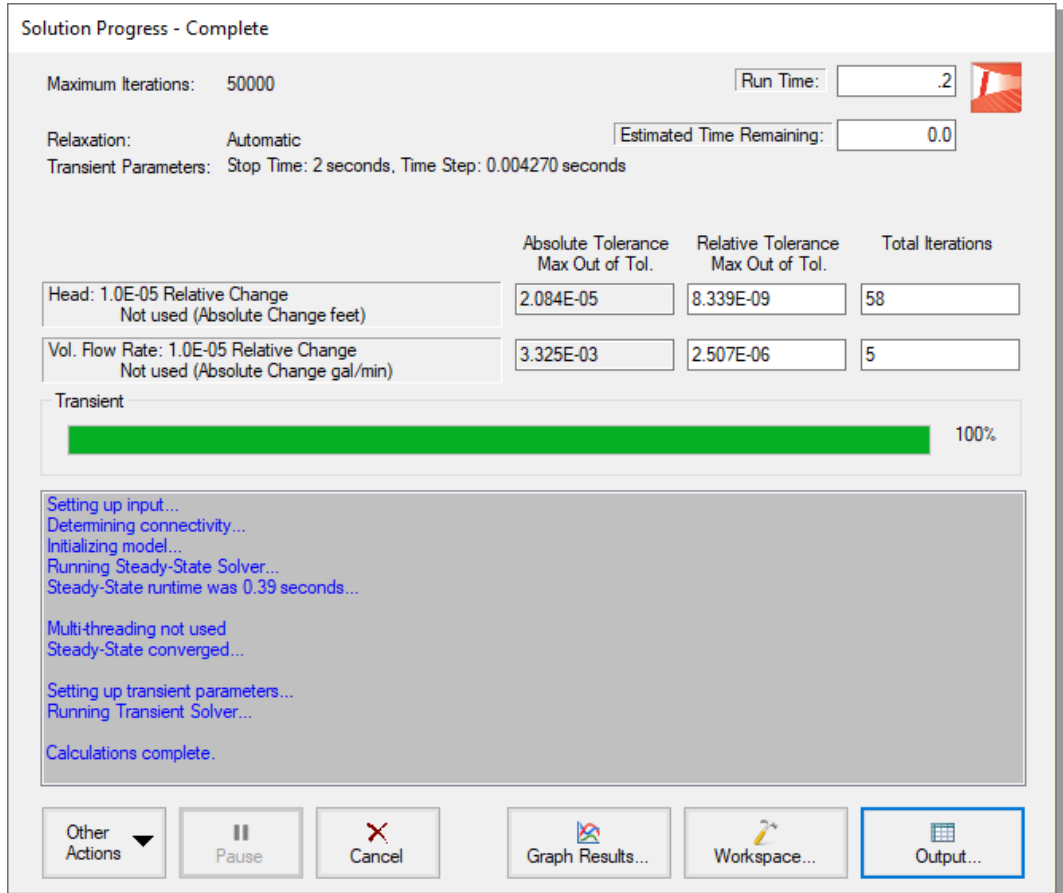

Figure 2.21 The Solution Progress window displays the state of the simulation
- Choose “Run Model...” from the Analysis menu or click the Run Model button on the Toolbar. During execution, the Solution Progress window is displayed and can be used to pause or cancel the Solver's activity (Figure 2.21).